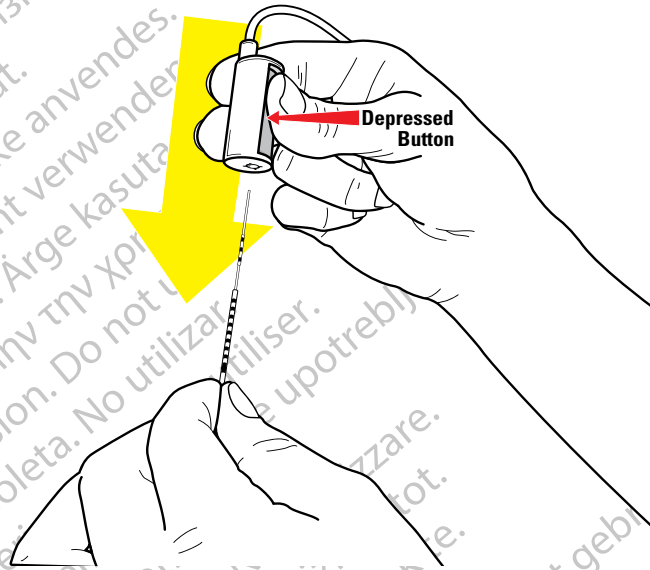

Figure 12. Depress Button on the OR Cable Connector to Connect OR Cable to DBS Lead
3. Hold the OR Cable and DBS Lead as shown in Figure 12. Press down on the button to open the OR Cable Connector. Keep the button depressed.
4. With the Lead Stylet in place, slide the OR Cable Connector onto the proximal end of the DBS Lead (Figure 12). Make sure that the DBS Lead is fully inserted. The OR Cable Connector will stop when the DBS Lead is fully inserted.